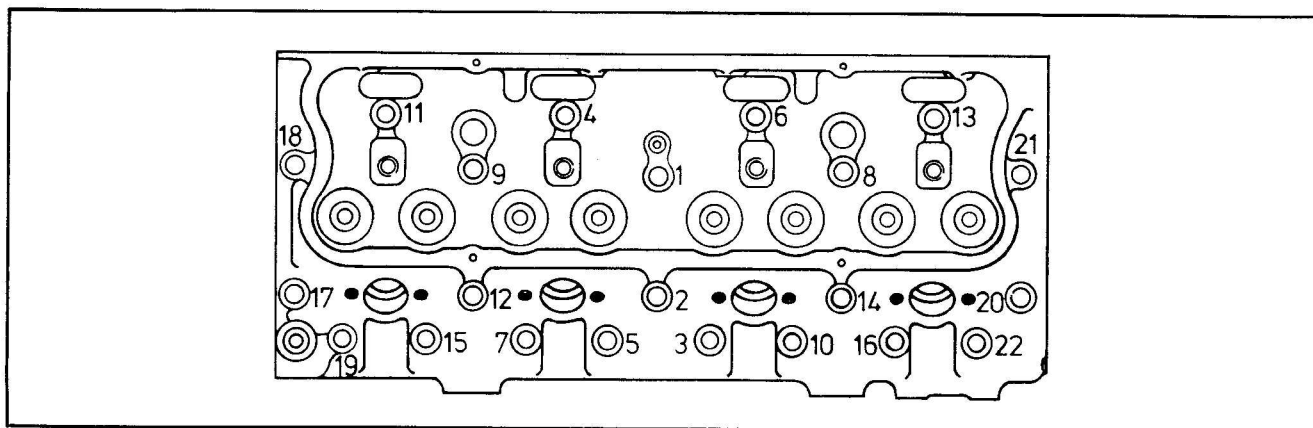

Fig. 11
Where the cylinder head is mainly secured by set-screws, the two studs used for gasket location purposes should be fitted in the end position of the left hand row of tappets, positions 19 and 22 in Fig. 11.
1. Lightly oil threads and tighten the nuts/set-screws progressively (in 3 stages) in the order shown in Fig. 11, to a torque of 81 Nm (60 lbf ft) for 7/16 in studs or 136 Nm (100 lbf ft) for ½ in studs/set-screws. The final stages should be repeated.